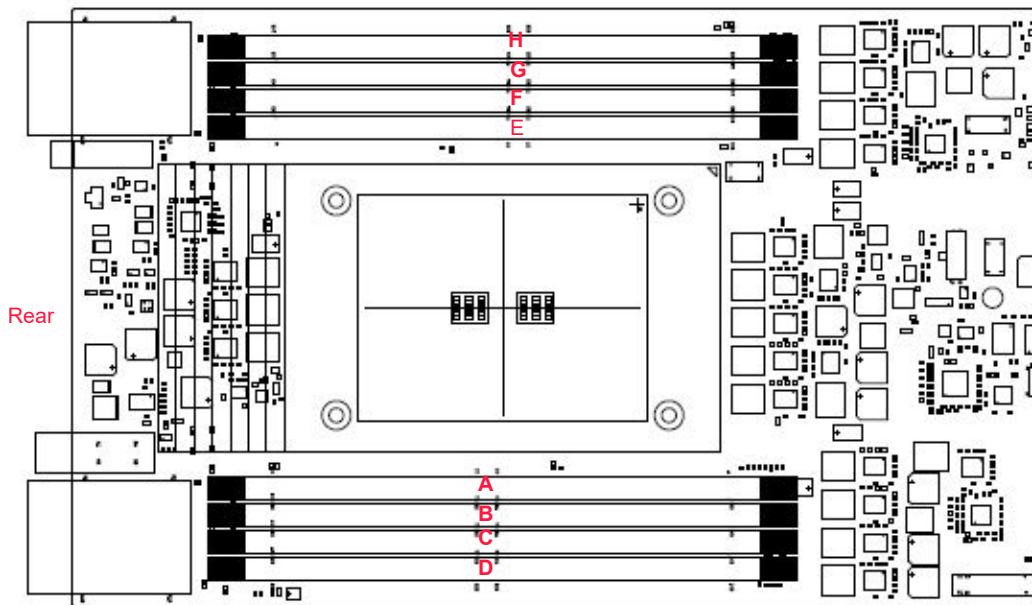

Figure 2.2 DIMM slots
- DIMM slots may be populated in any order and are identified as A through H in Figure 2.2 on page 17